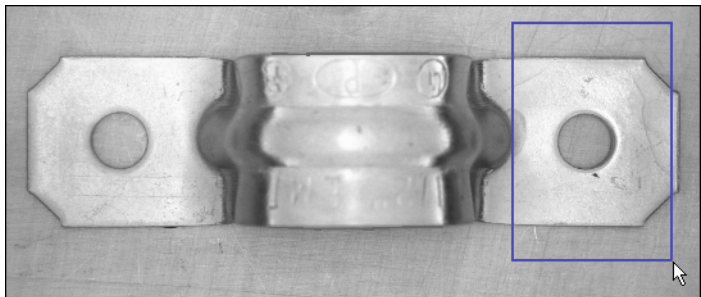

Figure 4-4. Selecting the Second Search Area
13. With the **Rectangle Tool**, draw a region of interest around the right side of the bracket, as shown in Figure 4-4. IMAQ Vision Builder automatically locates the template in the region bound by the rectangle and displays the score and location of the match.